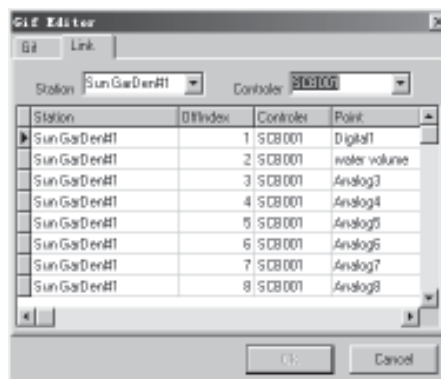

Fig. 4-30 Connect the Input and Output of Animated Picture and FAB
Similarly, the user may select the other diagrams and here we will omit the detailed procedure. When the user selects the Image option as in Fig. 4-30, the user may insert the BMP picture files.
3. Select and click Link, the system will display the dialogue frame as in Fig. 4-30. Select the FAB I/O Port of the working station that actually corresponds to the exhausting fan and click the Confirm button. Thus the animated picture inserting and inter-connecting is completed. When the system is running normally, under the situation conditions satisfied and the exhausting fan in the control site is working, its state will be transferred in realtime to the monitoring system and will be shown in the designed animated pictures. By this function, the user may observe the running state of any equipment graphically.